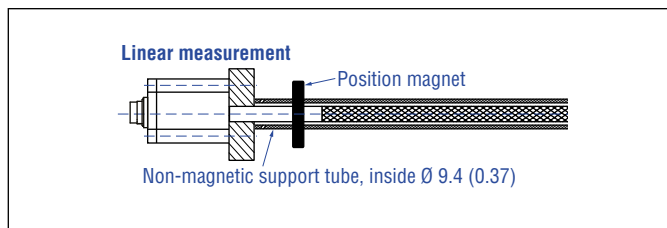

Fig. 18: Sensor with support tube
1. Always insert the flexible sensor rod in a support tube (e.g. sensor rod HD/HL/HP or HFP profile). The support tube has to be made of non-magnetic material and has to have an inside diameter of minimum 9.4 mm (0.37 in.) (Fig. 18). The support tube can be straight or bent.